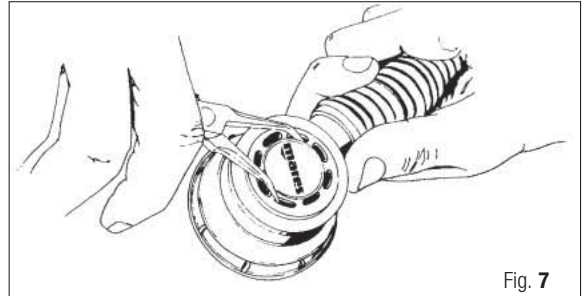

Fig. 7
18. Remove anchoring bushing (47) from actuating cable (66).
19. With suitable pliers, cut clamp (59) and remove the corrugated hose (60) from the RE valve (F).
20. Unscrew the RE cap (69) and remove (Fig. 7).
21. Remove the exhaust diaphragm (6) and housing (7) from RE cap (69).
**NOTE** IT IS NOT NECESSARY TO REMOVE THE EXHAUST DIAPHRAGM (6) FROM THE HOUSING (7), UNLESS THE EXHAUST DIAPHRAGM OR HOUSING ARE TO BE REPLACED.
22. Remove gasket (67) from RE housing.
23. Remove the RE valve plate (63) from the RE housing and unthread the actuating cable (66), detaching it from RE valve plate (63).
24. Remove spring (64) from RE housing.